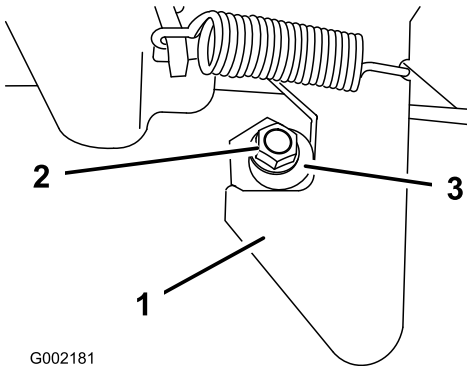

Figure 65
1. Loosen the locknut on the end of the latch post (Figure 65).
2. Rotate the latch post clockwise until it is snug against the hook portion of the latch (Figure 65).